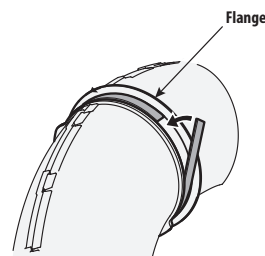

Figure 26
6. Peel the backing off of the self-adhesive foam strip (721-04388) that has been included with your bagging attachment. Apply it to the upper chute tube, flush against the flange as shown in Figure 26.